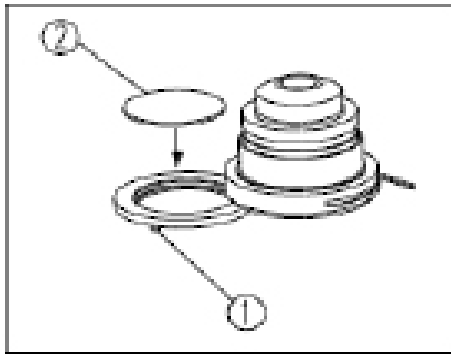

Fig. 17
Unscrew color filter holder (1) at the bottom of the condenser in a clockwise direction, install the filter (2) into the holder, then reinstall holder in a counterclockwise direction (See Fig.17).